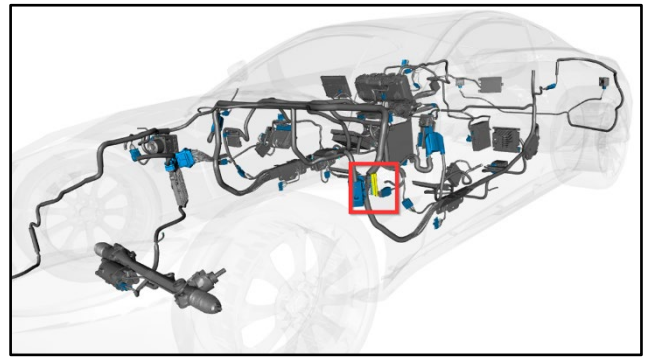

Figure 23
6. **Body CAN** – This header is in the driver's footwell (refer to Figure 23).